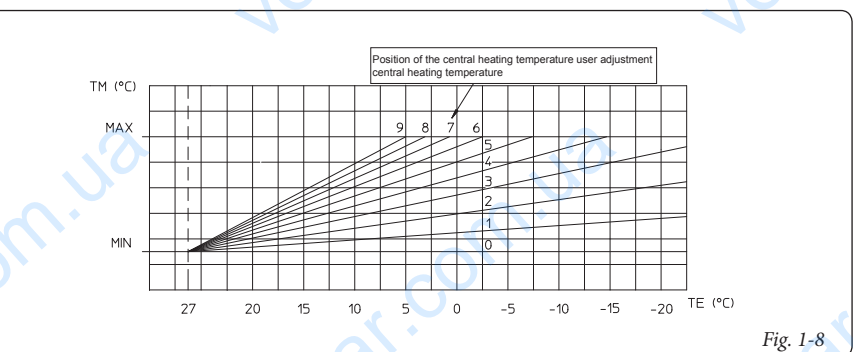

Fig. 1-8
The probe can be connected directly to the boiler electrical system and allows the max. system flow temperature to be automatically decreased when the external temperature increases, in order to adjust the heat supplied to the system according to the change in external temperature. The external probe always acts when connected independently from the presence or type of room thermostat used. The correlation between system flow temperature and external temperature is determined by the position of the selector switch on the boiler control panel according to the curves shown in the diagram (Fig. 1-8). The electric connection of the external probe must be made on clamps 38 and 39 on the boiler P.C.B. (Fig. 3-2).
• **Functioning with optional external probe** (🌡). In the case of a system with optional external probe, the boiler flow temperature for room central heating is managed by the external probe depending on the external temperature measured (Par. 1.6). The flow temperature can be modified by selecting the functioning curve via buttons (5 and 6), selecting a value from “0 to 9” (Fig. 1-8).